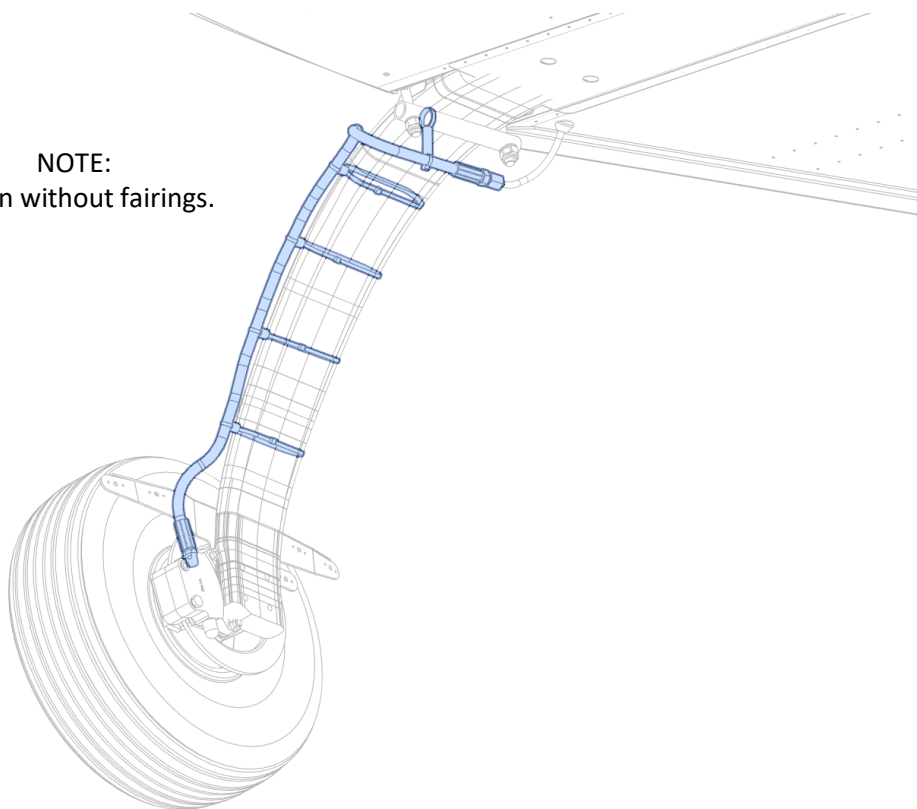
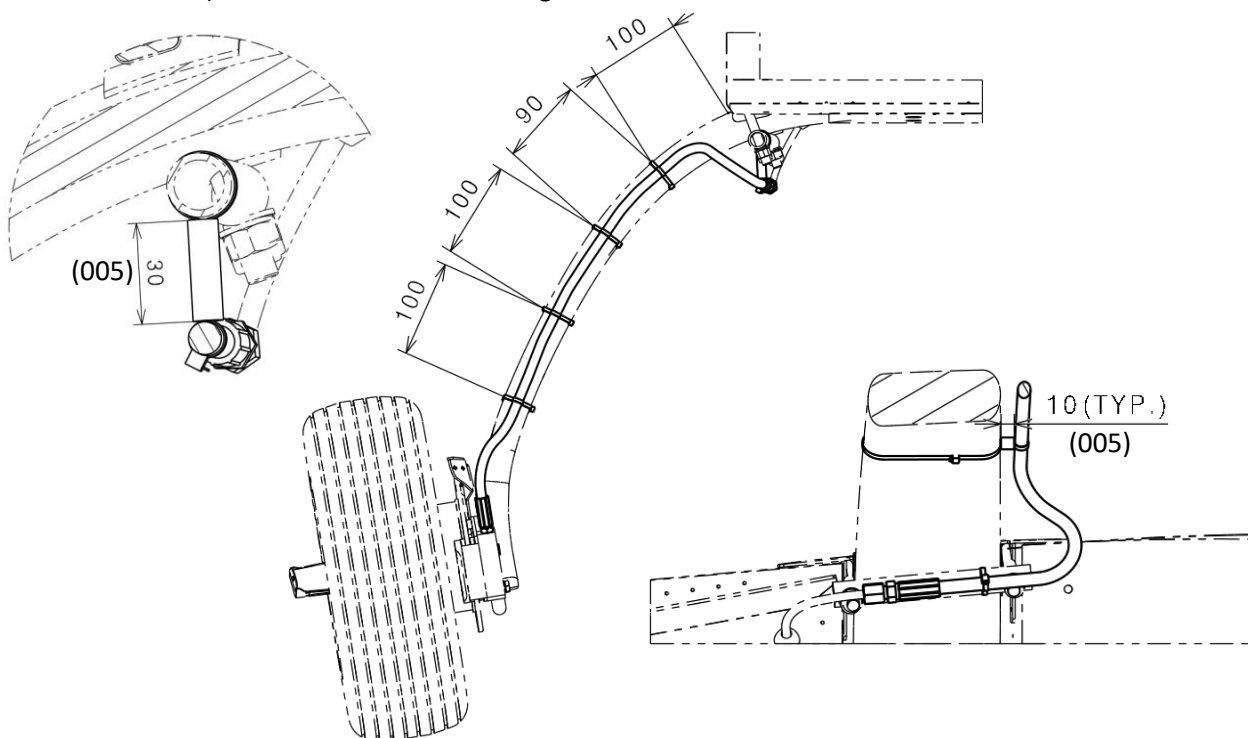

Fig. 2: Brake hose
Fig. 3: Fasten hose
- 9) Attach hose with lock ties and hoses to main landing gear leg. See Fig. 2 and Fig. 3.
10) Fasten with lock tie. See Fig. 3.